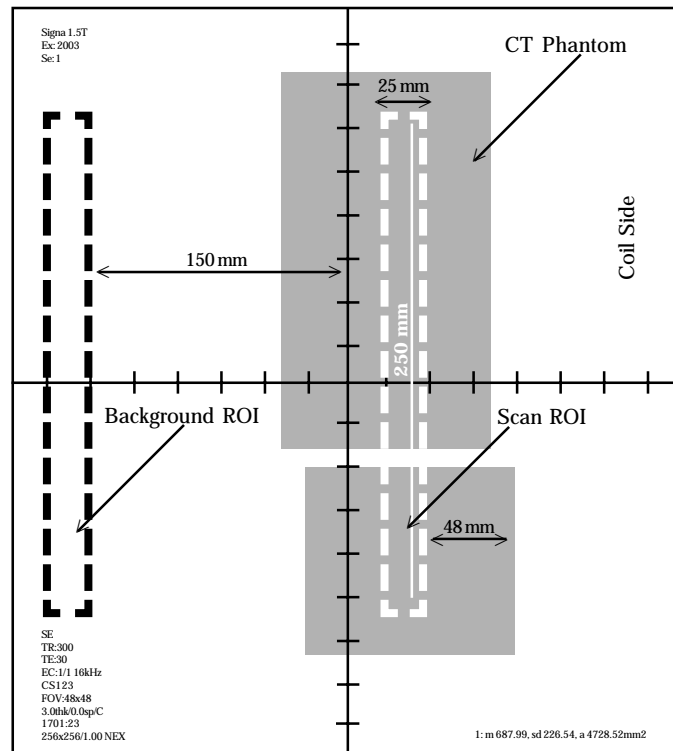

Figure 5: SNR measurement for top three coils (coil mode USCS123).
- Select [Scan]. Scan the CT phantom with the top three coils (coil mode USCS123) with landmark at the 22cm mark on the scale. Observe the resulting image of the phantom which should be similar to *Figure 5*. Check to see that there are no artifacts in the image. This image will be used for determination of the SNR of the top three coils.
- SNR Measurement of Top Three Coils -- Select the phantom image. Select the rectangular cursor or box. Size the box so that it represents a rectangular region of interest (ROI) of 25mm x 250mm (approximate). Position the edge of this rectangle at 48mm from the edge of the phantom closest to the coil, with the center of the rectangle in line with FOV isocenter (see Figure 5).
- Record the phantom ROI's mean pixel value and standard deviation. Reposition or recreate the same rectangular ROI in the background region at exactly 150mm from the **center of the FOV** (see *Figure 5*). Check to see that the background is free of any artifact.